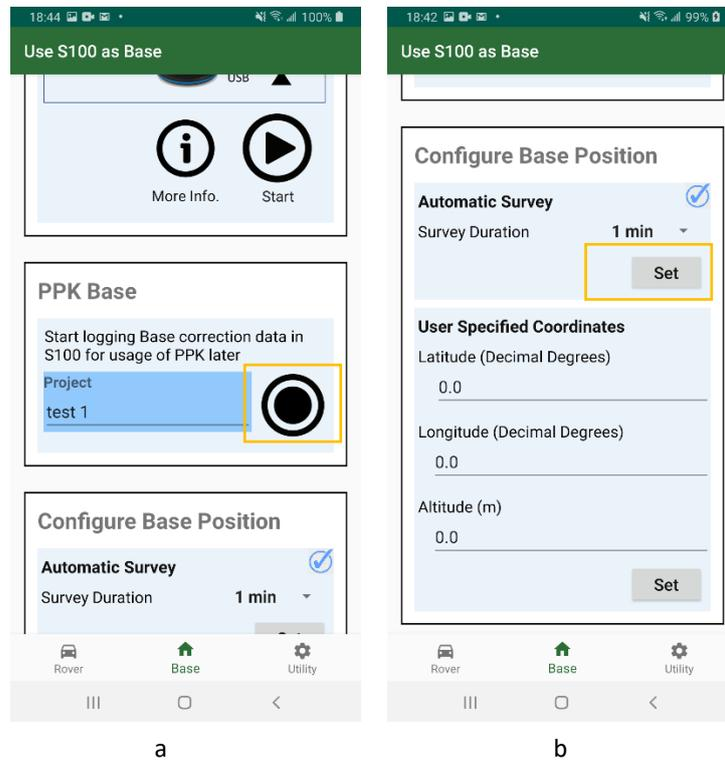

Figure A-2
1. Setup mobile RTK base to log data for later uploading to online PPP service to derive accurate base position. See Figure A-2 a.
2. Setup mobile RTK base to work with RTK rover, with base having approximate position P_0 . P_0 can be 1 minute automatic surveyed approximate position. See Figure A-2 b.